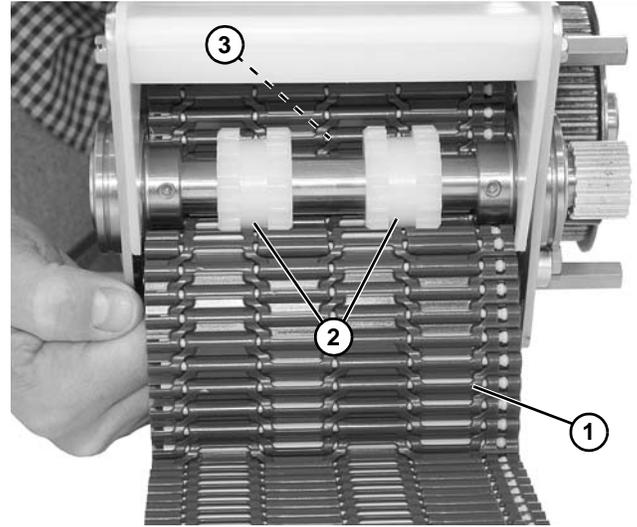

Figure 74
6. Guide belt (**Figure 74, item 1**) through wear bar assembly with belt routing under gears (**Figure 74, item 2**) and over wear tube (**Figure 74, item 3**).